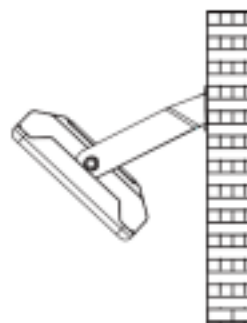

figure 3.4
Step 3: Loosen screw; Adjust lamp angles as per actual demands and tighten screws later.(figure 3.4)